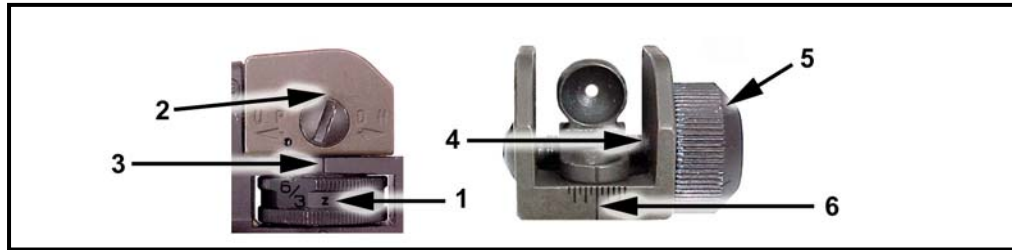

Figure 2-9. M16A4 MWS battlesight zero.
(2) ***Battlesight Zero the M16A4 MWS.*** If necessary, the soldier should battlesight zero the weapon as follows (Figure 2-9):